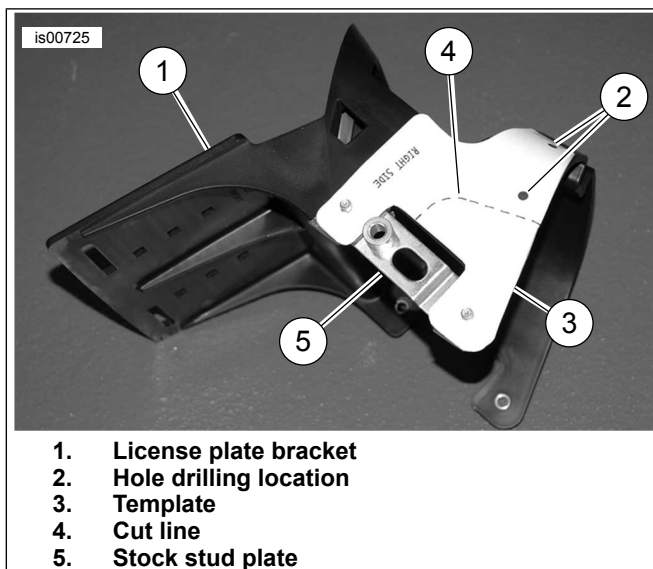

Figure 3. Template Placement (Right Side Shown)
11. See Figure 3. Use the stock stud plate (5) to locate the template, as shown. Tape the two templates (3) to the license plate bracket (1), lining up the mounting holes of the bracket with the hole indicators on the template, as shown. Mark the locations of the holes to be drilled (2), then use a blade to trace the cut lines (4) of the template onto the bracket.